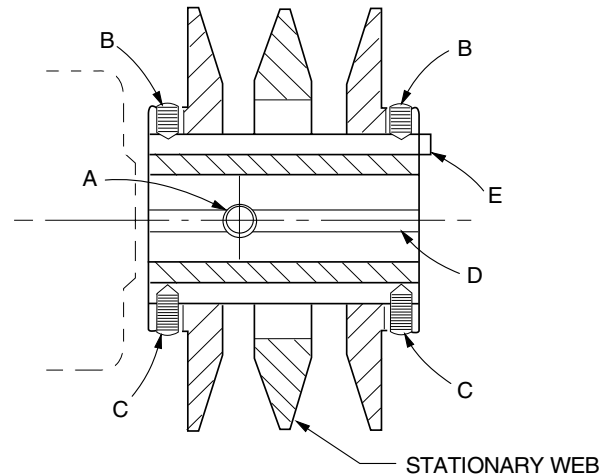

FIGURE 17: DOUBLE GROOVE PULLEY
Twin groove blower motor pulleys should be installed with the shaft set screw (A) towards the motor (see Figure 17).